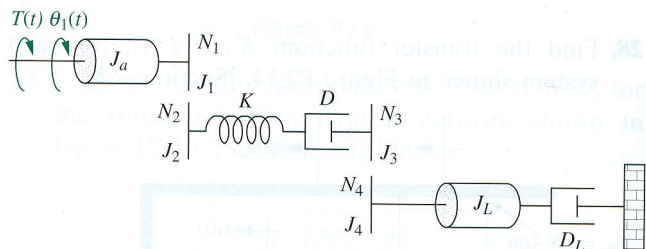

FIGURE P2.23
37. For the rotational system shown in Figure P2.23, write the equations of motion from which the transfer function,  $G(s) = \theta_1(s)/T(s)$ , can be found. [Section: 2.7]